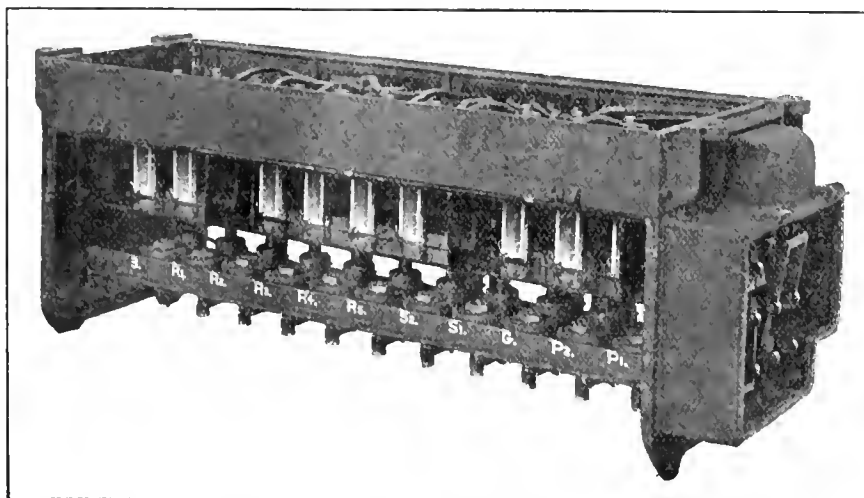
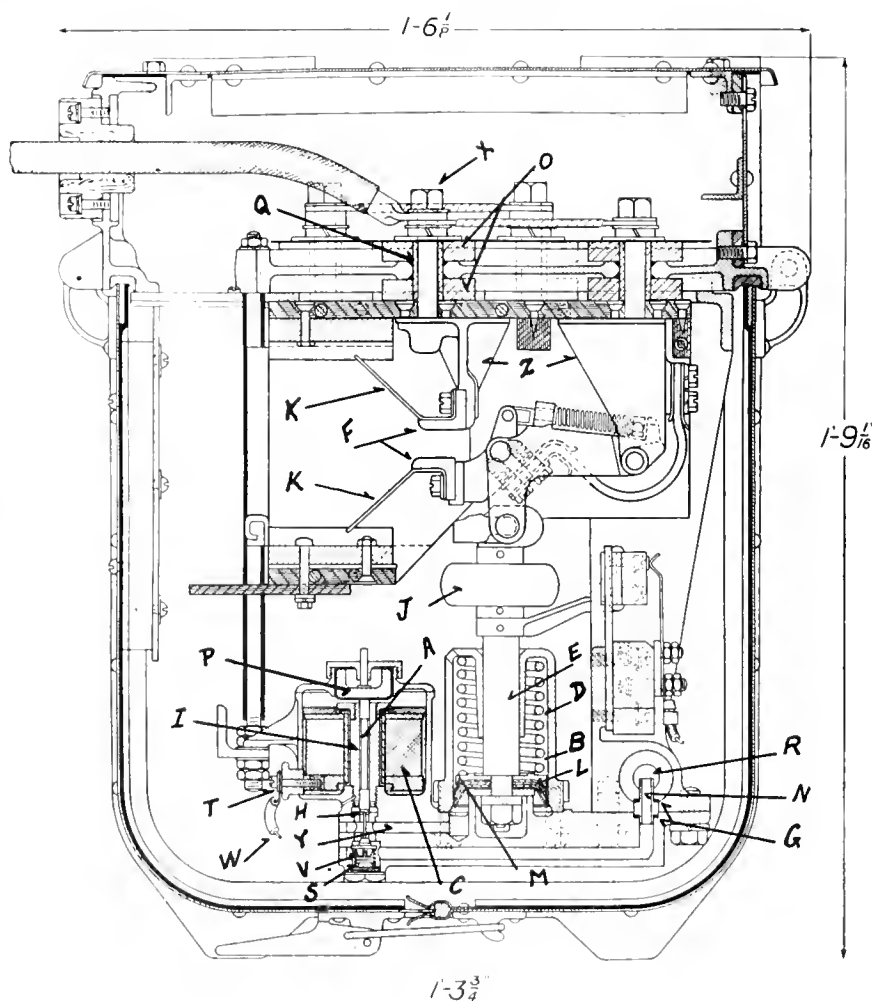
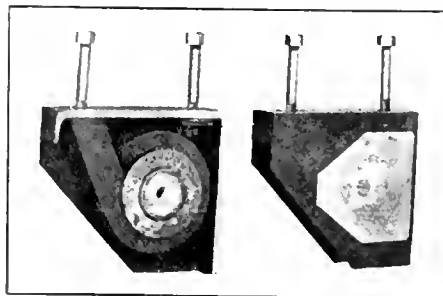

FIG. 11. SWITCH GROUP COMPOSED OF ELEVEN ELECTRO-PNEUMATIC UNITS.
FIG. 12. CROSS SECTION DRAWING OF THE SWITCH GROUP.
FIG. 14. BLOW OUT COIL.
A. The battery power is connected to a piece of apparatus known as the master controller. This master controller is located adjacent to the air brake valves and provides the means for connecting the battery current to a system of control wires which run from the master controller to the unit switches. The energizing of a control wire operates a small air valve allowing the air pressure to enter a cylinder moving the piston and thereby closing the switch. The power from the main circuit is connected to the switch so that the closing of the switch throws the power on to the motors. These unit switches are grouped together in numbers varying anywhere from 6 to 12 or even more. The group of switches is called a "switch group." Fig. 11 shows a switch group made up of 11 switches. Each of these 11 switches is a unit and is interchangeable.
A. A cross section through one of these switch units is shown by Fig. 12. The air is piped into the end of the group and supplies air at 70 pounds pressure to the small reservoir "R" running the whole length of the group. Each of the cylinder
A. Referring to Fig. 11, the cables are shown on the top of the group. These cables enter through the side as shown in the sectional view Fig. 12 and the terminals soldered to the ends are bolted down by the studs "X." These studs pass through the top framework of the group, being insulated therefrom by means of insulated washers "O" and tube "Q" and screw into the copper casting "Z" to which are bolted the copper contact "F." The main current, as can be seen, enters and leaves the top of the group and the main circuits are entirely independent of the control circuits. In order to insulate the current from the control apparatus an insulator "J" is placed in the piston "E" so that the power flowing through the contacts "F" is entirely eliminated from the rest of the apparatus.
A. Referring to Fig. 11, it is noted that there are spaces between each of the switches. This space is not vacant, but is occupied by a blow-out coil Fig. 14. The blow-out coil consists of a few turns of copper strap and the connection to it is made by the studs as shown in the figure. The arrangement of main circuits is such that the current flows through these blow-out coils before it passes through the switches, so that when the contacts open and an arc is formed, current is still passing through these blow-out coils and a magnetic action is set up which extinguishes the arc. The coils are close to the contacts on either side and a strong magnetic field exists at right angles to the contacts. The arc is formed when the contacts open (the arc is a current flowing through the air) takes place in a magnetic field and, according to the laws of magnetism and electricity, moves at right angles to the field. The arc is, in other words, blown out magnetically and this is one of the fundamental principles of this design and the reason for its great success. The time taken to blow out this arc is about instantaneous.